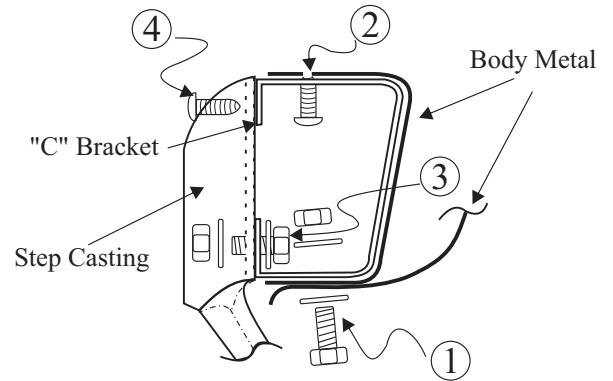

Figure E-2
8. Maneuver the "C" brackets back into their mounting position. Attach the 5/16" bolt with washer through the 3/8" holes on the pinch weld (see #1 on Fig. E-2). Note: If the holes do not line up flush, file the holes so that the bolt can pass the body metal and the bracket freely. Do not tighten the bolts yet, hold the bracket firmly in place and mark a point on the vehicle's body metal through the top hole on the "C" bracket. Remove the "C" brackets from their mounting position.
11. Install the "C" brackets back to the mounting position. Apply sheet metal screws through the top holes and tighten, apply the 5/16" bolts, washers and nuts through the bottom holes to hold the brackets to the vehicle, do not tighten down yet. (see Fig. E-2, E-4).
12. Install the step to the brackets. Apply the sheet metal screws through the upper holes on the "C" brackets, apply 5/16" bolts, washers and nuts through the lower holes to secure the step to the brackets. Now tighten all the screws, bolts and Nuts firmly (see Fig. E-2 & E-4).